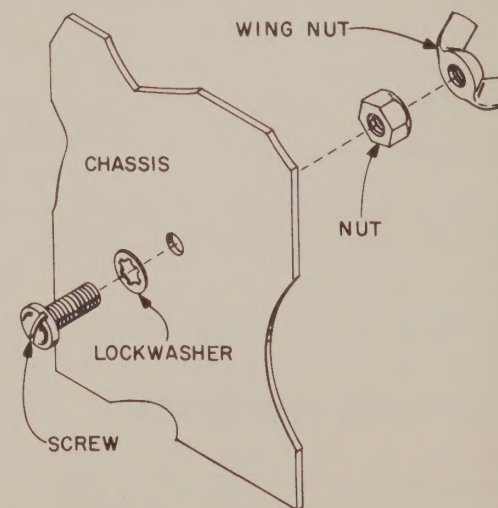

FIGURE 5. GROUND POST ASSEMBLY
- ☐ Ground post, a 10-32 screw, lockwasher, nut and wing nut. Assemble as shown in Figure 5.